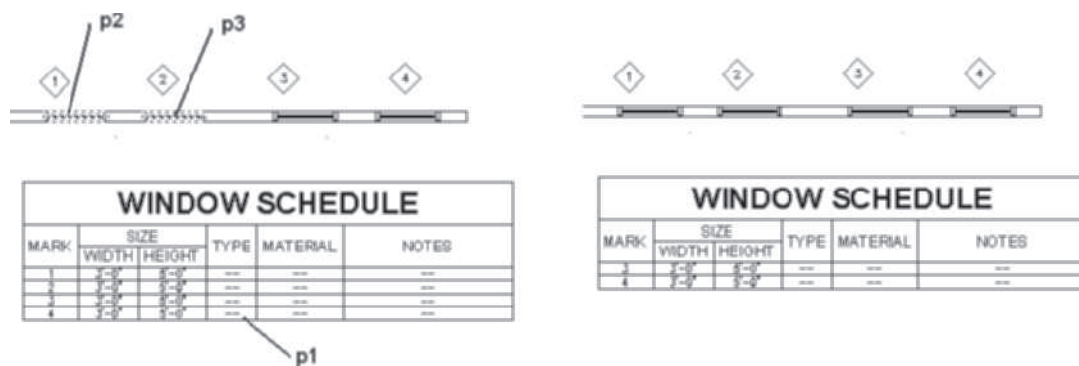

FIGURE 11.71 Revised schedule based upon remaining objects
The window schedule shown in Figure 11.71 includes four windows. The following workspace sequence was used to remove windows from the schedule.
*(Select the window schedule at p1 as shown at the left in Figure 11.71, choose **Remove** from the Scheduled Objects panel of the Schedule Table tab.)*
Select objects: *(Select the window at p2 as shown in Figure 11.71.)*
Select objects: *(Select the window at p3 as shown in Figure 11.71.)*
Select objects: ENTER *(Press ENTER to end the selection. Windows are removed from the schedule as shown at the right in Figure 11.71.)*